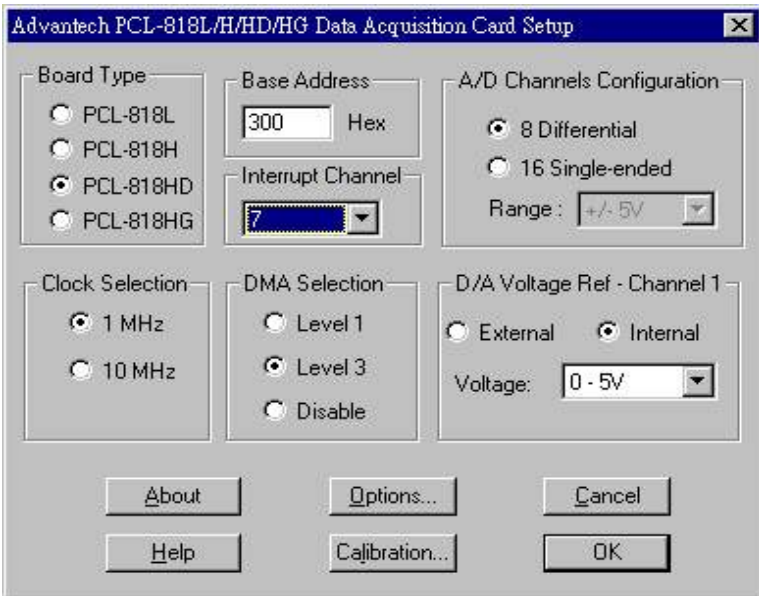

Figure 2.4: Device Settings
Step 3: Scroll down the List of Devices box to find the device that you wish to install, then click the Add... button. You will see a Device Setting dialog box such as the one in Fig. 2-4.
Step 4: On the Device Setting dialog box (Fig. 2-4), you can configure the A/D channels configuration either as 8 Differential or 16 Single-ended, and specify the D/A voltage reference either as External or Internal.